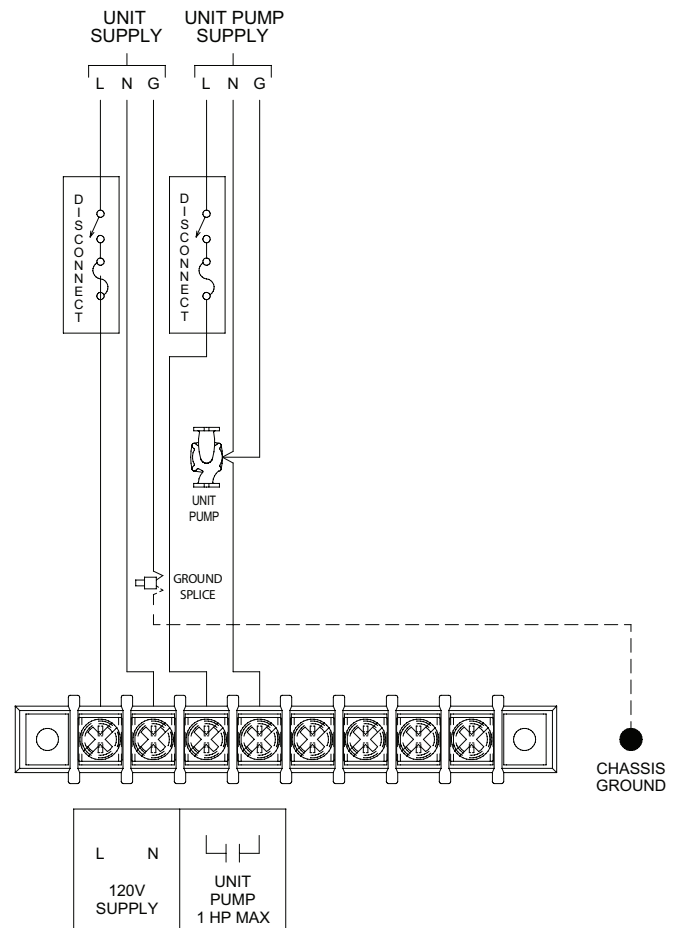

Figure 5-2 Line Voltage Field Wiring Connections
1. Connect 120 VAC power wiring to the line voltage terminal strip in the junction box, as shown in FIG. 5-2.
2. Provide and install a fused disconnect or service switch (15 AMP recommended) as required by the code (see FIG. 5-2).
3. To activate the unit, wire as shown in FIG. 5-2. If the motor is larger than 1 HP, you must install a contactor.